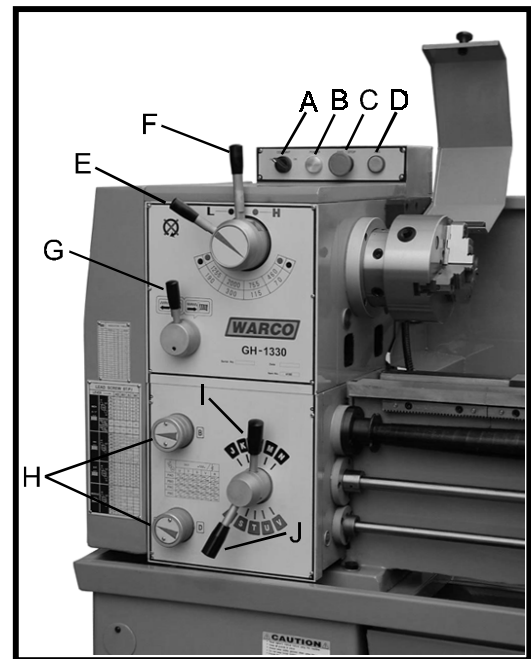

Fig. 14
- A. **Coolant On-Off Switch** (A, Fig. 14) - turns coolant pump on and off.
- B. **Power Indicator Light** (B, Fig.14) – lit whenever lathe has power.
- C. **Emergency Stop Switch** (C, Fig.14) – depress to stop all machine functions. (Caution: lathe will still have power). Twist to re-set.
- D. **Jog Switch** (D, Fig.14) – depress and release to advance spindle momentarily.
2. **Four Step Speed Selector Lever** (E, Fig.14) – located on the front of the headstock at the top. Use to select one of four spindle speeds in either high or low range.
3. **High/Low Speed Selector Lever (H – L)** (F, Fig. 14) –located on front of headstock at the top. Move to the left for low speed range. Move to the right for high speed range.
4. **Feed Direction Selector** (G, Fig.14) – located on the front lower left corner of the headstock. Arrows above the handle indicate saddle travel direction when the chuck is rotating in the forward direction or counter-clockwise as viewed from the front of the chuck.
5. **Feed Rate Selectors Knobs** (H, Fig.14) – located on front left side of the gearbox. Use to set desired feed or lead rates.
6. **Feed Rod / Leadscrew Selector Lever** (I, Fig.14) –located on the front right side of the gearbox. Position “P” is for the feed rod. Others are for the feed screw.
7. **Feed Rate Selectors Lever** (J, Fig.14) – located on the front right side of the apron. Use for setting up for feeding and threading..